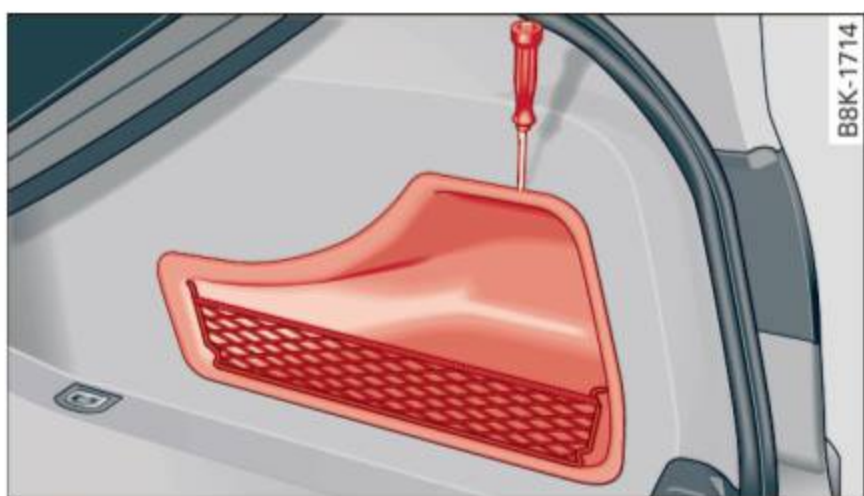

Fig. 156 Luggage compartment: opening the side trim
- ▶ Insert a tool such as a screwdriver ⇒ *page 227* or the emergency key into the right side of the upper gap ⇒ *fig. 156*.